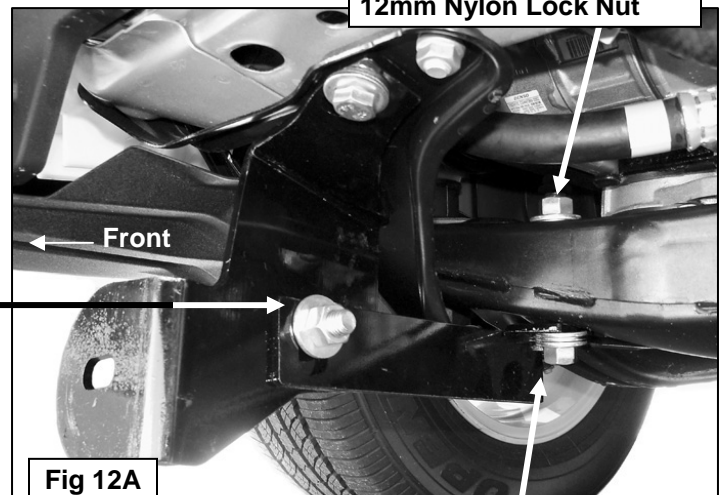

Fig 12A
- b. **4cyl. models:** Select the passenger side Support Bracket. Insert (1) 12mm x 90mm Hex Bolt with (1) 12mm x 32mm STD Flat Washer through the Support Bracket, splash guard and up through the holes in the crossmember, **(Figures 12A & 12B)**. Secure the Support Bracket and Hex Bolt with (1) 12mm x 37mm Large Flat Washer and (1) 12mm Nylon Lock Nut on top of the crossmember below the AC Compressor. **IMPORTANT:** There must be a minimum 15mm gap between the 12mm x 90mm Hex Bolt and the AC
compressor. (2) additional 12mm Flat Washers have been provided for use as a spacer. Use a maximum of (3) Flat Washers under the head of the 12mm x 90mm Hex Bolt as necessary, **(Figures 12A & 12B)**. Snug but do not tighten hardware.